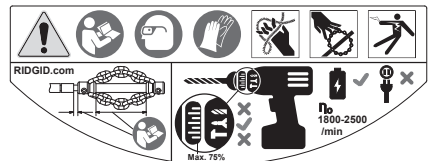

Figure 2 – Warning Label
- Presence and readability of the warning label (see Figure 2).